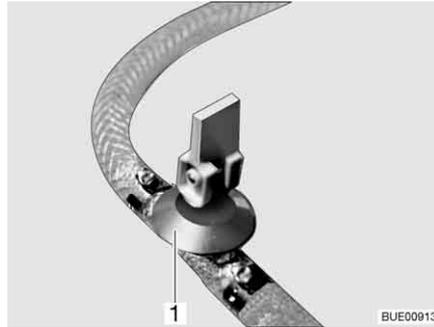
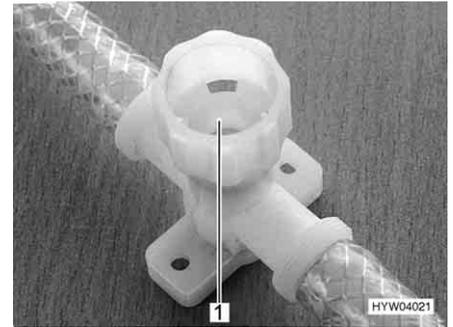

Fig. 169 Drain cock (with rocking lever)
Fig. 170 Drain cock (with twist cap)
- Close all drain cocks. To do this, position the drain cock's rocking lever (Fig. 169,1) horizontally or turn the drain cock's cap (Fig. 170,1) in a clockwise direction.